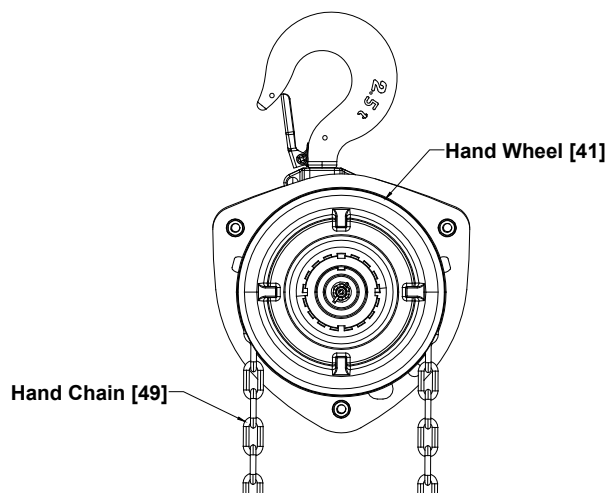

Figure 6-10 Hand Wheel Assembly
- 20)** Put the hand chain [49] around the hand wheel [41]. See figure 6-10.